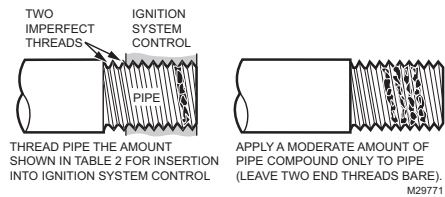

Fig. 4. Use a moderate amount of pipe compound.
5. Apply a moderate amount of good quality pipe compound, leave two end threads bare. Do not use pipe compound on the outlet. See Fig. 4.